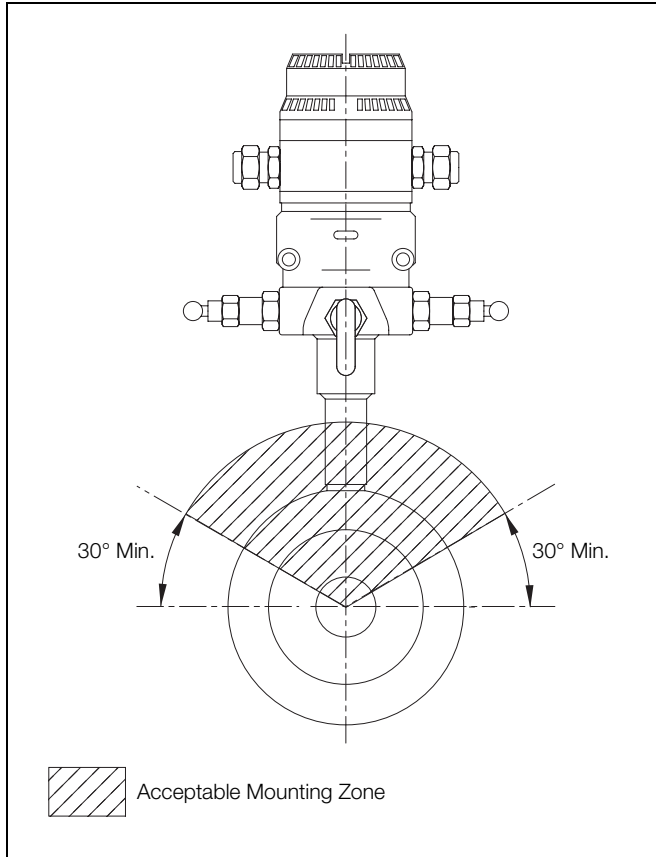

Fig. 2.2 Horizontal Pipe Mounting – Gas
To ensure that condensate drains back into the pipe, mount the meter **above** the pipe, at least 30 degrees above the horizontal – see Fig. 2.2.
- b. The meter is oriented correctly depending on the type of installation – see Figs. 2.2, 2.3, 2.4 and 2.5.
- for horizontal pipe mounting – gas, refer to Fig. 2.2.